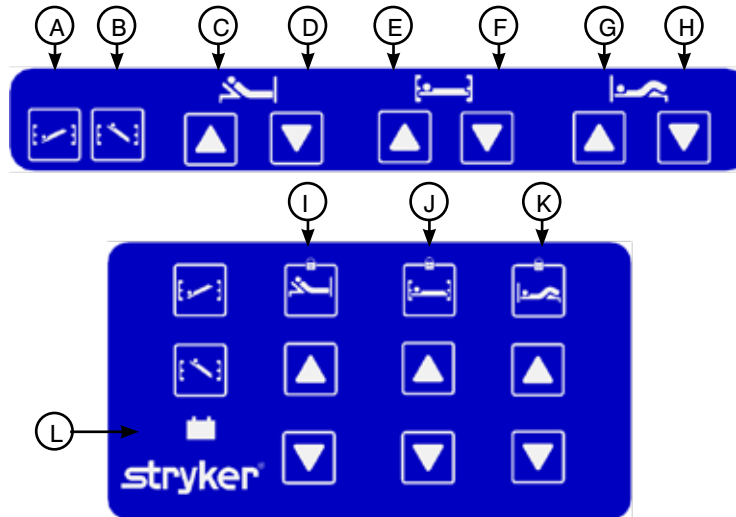

Figure 1
- The three control lockouts (I to K) as shown in Figure 1 allow the selective lock out of controls available to the patient and the nurse staff through the optional siderail control panels or the optional pendant control. The state of the LED associated to each control indicates whether the control is available to the patient or is locked. A LED that is illuminated yellow (On) indicates that the control is locked. If the LED is not illuminated (Off), then the control is available to the patient.